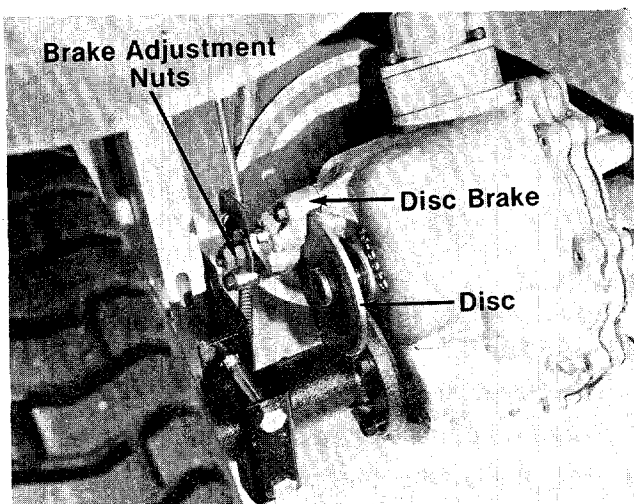

FIGURE 24.
3. If adjustment is necessary, tighten or loosen the brake adjusting nuts until the correct dimension is obtained. (See figure 24.) Periodic adjustment is necessary to maintain effective brake operation.